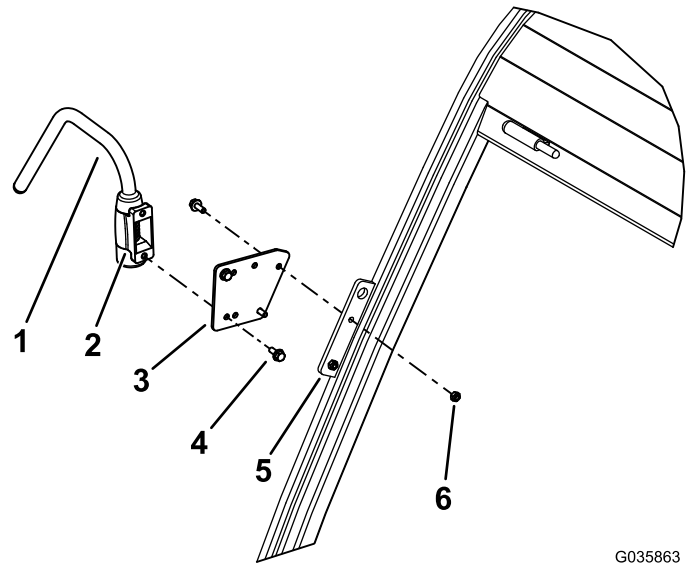

Figure 3
2. Align the mounting bracket of the support arm to the extension bracket and the mirror bracket at pillar A of the cab (Figure 3).
3. Secure the extension bracket to the mirror bracket with 2 flange-head bolts (M6 x 16 mm) and 2 locknuts (M6) as shown in Figure 3.
4. Secure the support arm to the pillar with the 2 flange-head bolts (M6 x 16 mm) as shown in Figure 3.